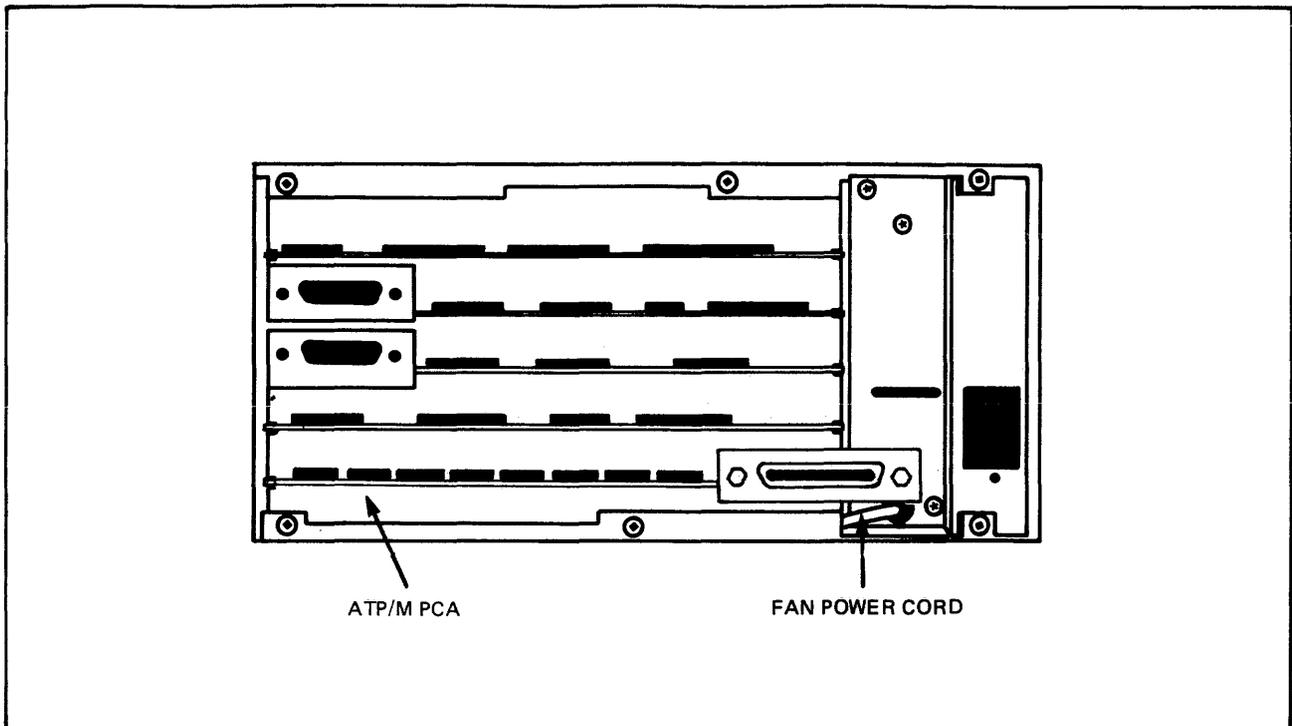

Figure 2-6 MICRO 3000XE and 3000 Series 37 SPU/Extender Rear Panel Removed
- a) Refer to Figures 2-6 and 2-7.